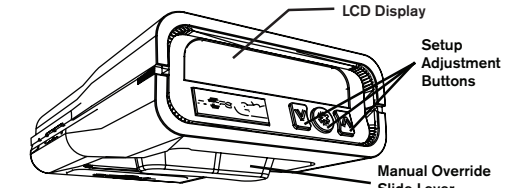

fig. 2
- » The "Manual Slide Lever" (**Fig. 2**) is located on the bottom of the controller.